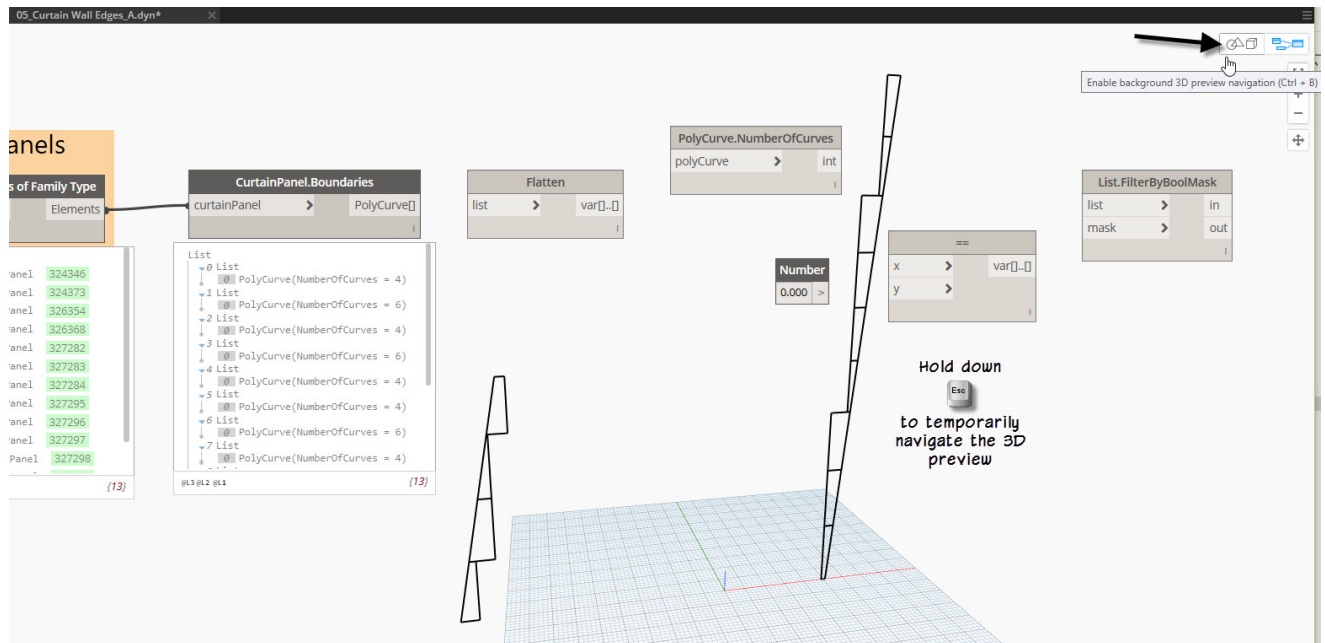

Figure 96
19. Toggle the 3D preview again32 (see Figure 96).